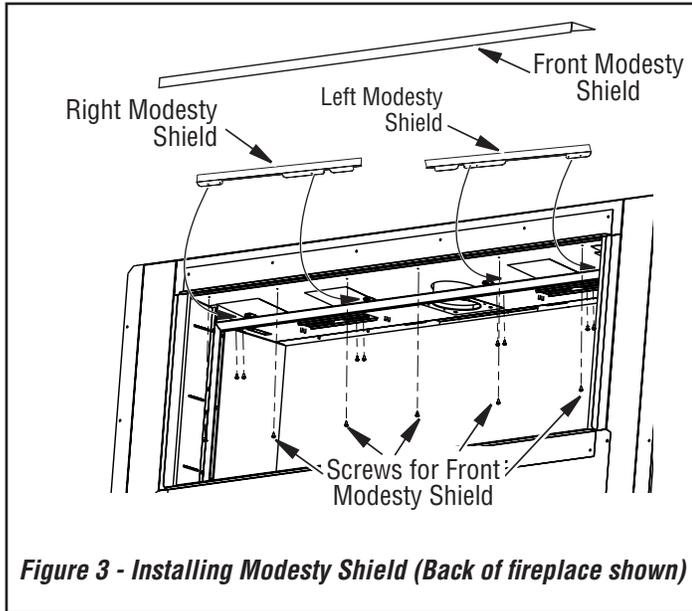

Figure 3 - Installing Modesty Shield (Back of fireplace shown)
2. Remove/discard 8 screws from inside top firebox. The screws to be removed (2 ea.), are close to each spring latch holding rivets, see **Figure 3**, page 3.
3. Install left side modesty shield bracket using 4 screws #10 (supplied) where screws were removed in step 2 from inside of top firebox, see **Figure 3**, page 3.
4. Install Right side modesty shield bracket using 4 screws #10 (supplied) where screws were removed in step 2 from inside of top firebox, see **Figure 3**, page 3.
5. Using 5 screws #8 (supplied), install the front piece modesty shield underneath of the heat diverter making sure upper channel for the barrier is clear (**Figure 3**, page 3).